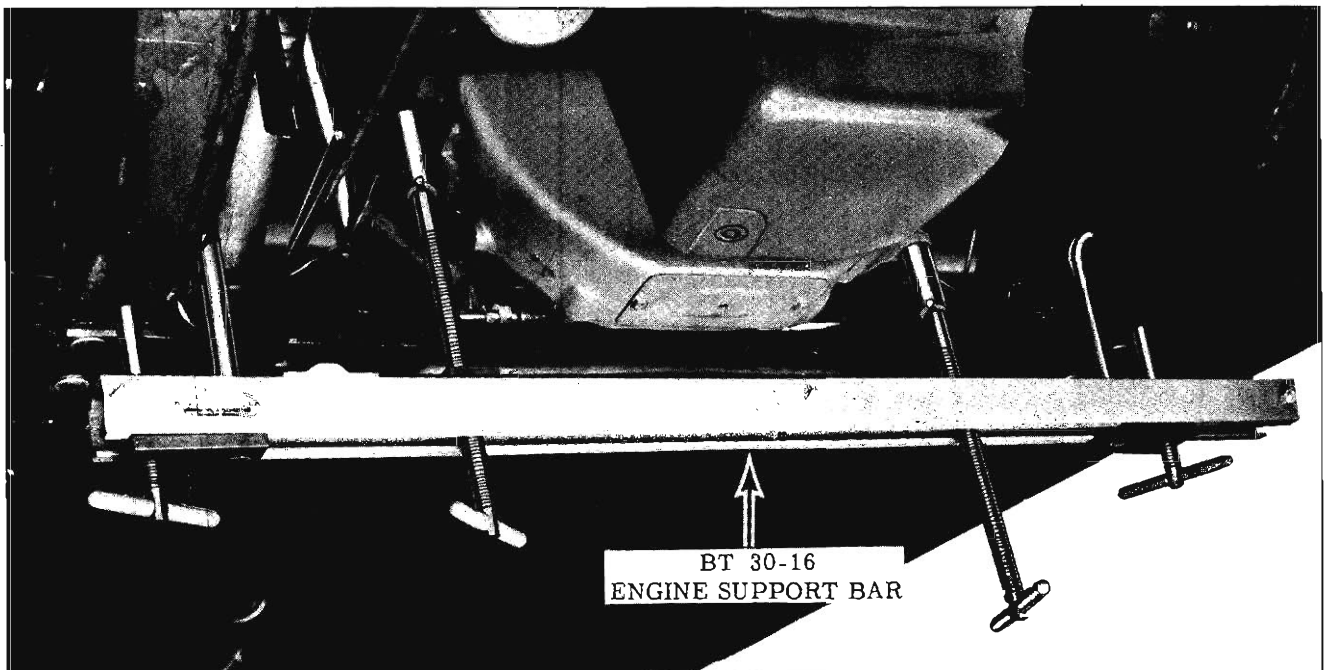

Fig. 3-52 Engine Support Bar
1. Position the Engine Support BT-30-16 as shown in Fig. 3-52.